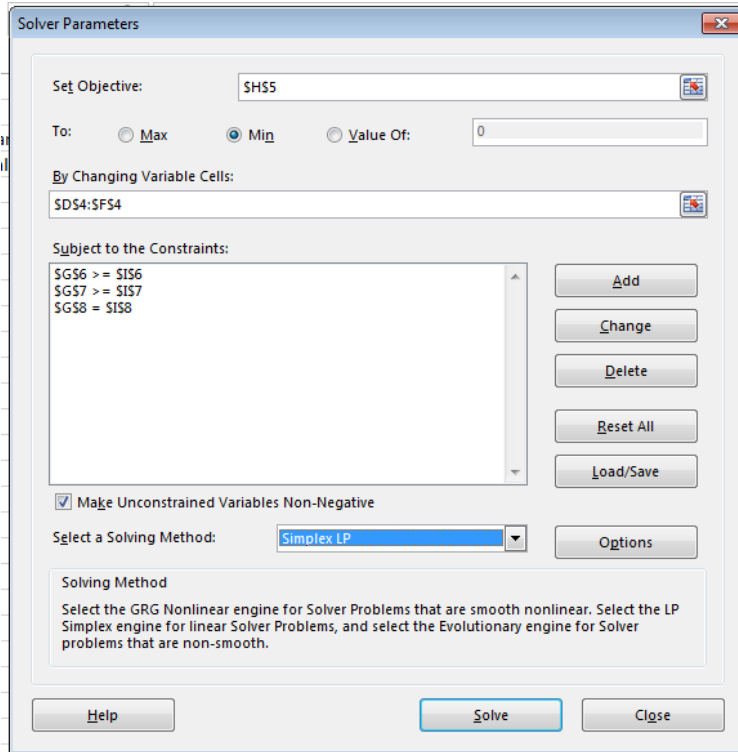

Figure 7: The Solver dialog box just before solving the LP
6. Finally, we need to tell Solver *how* it is to solve the LP. By far the best method that Solver has available to it for this kind of problem is the Simplex method, so on the drop-down menu “Select a Solving Method” select “Simplex LP”. The Solver dialog box should now loom like the screenshot (fig 7).